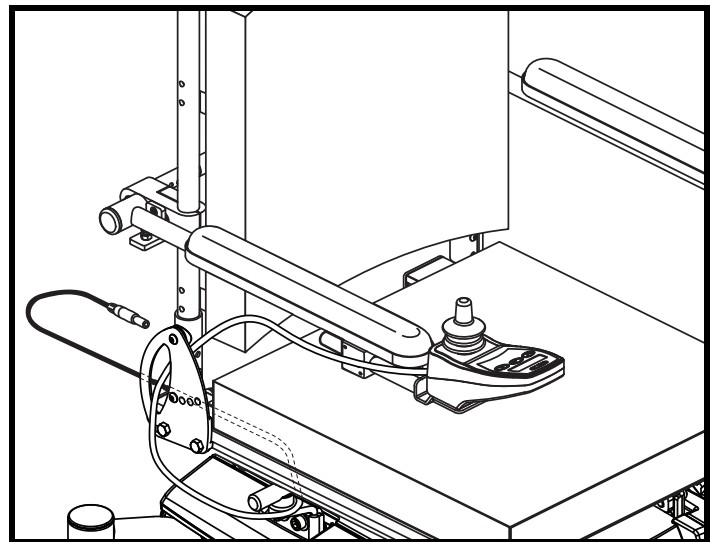

Figure 8. Controller Harness Routing on a Synergy Seat
4. Install the controller and route the harness to the back of the power base. See figure 8 or 9.